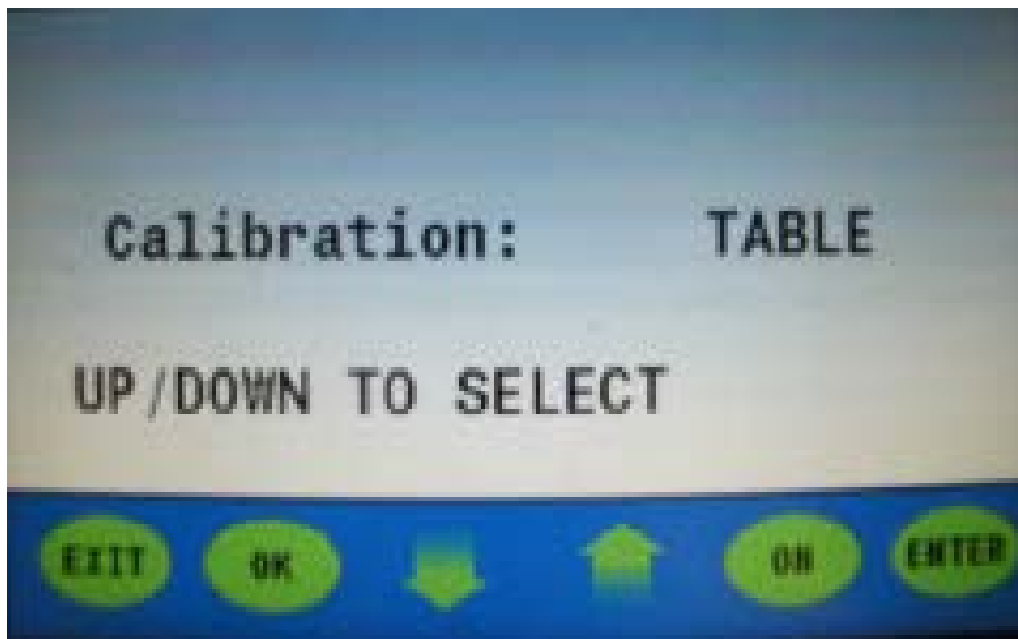

Figure 7
14. Press the **up** or **down arrow**; select “Table.” Next, press the **Enter button (figure 7)**.